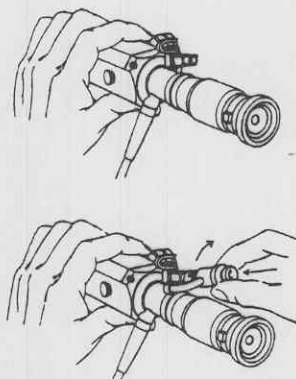

Figure 2-7. Installing the automatic aspirator.
f. Install the automatic aspirator (fig 2-7) as follows:
(1) Grasp the proximal housing of the fiberoptic bronchoscope in your left hand. The eyepiece will be pointing at your body.
(2) Grasp the automatic aspirator between the thumb and forefinger of your right hand with the bent suction tube pointing toward the left side of the proximal housing.
(3) Push the automatic aspirator onto the Luer fitting and rotate the automatic aspirator clockwise until it is finger tight. The bent suction tube will now be pointing toward the right side of the proximal housing.